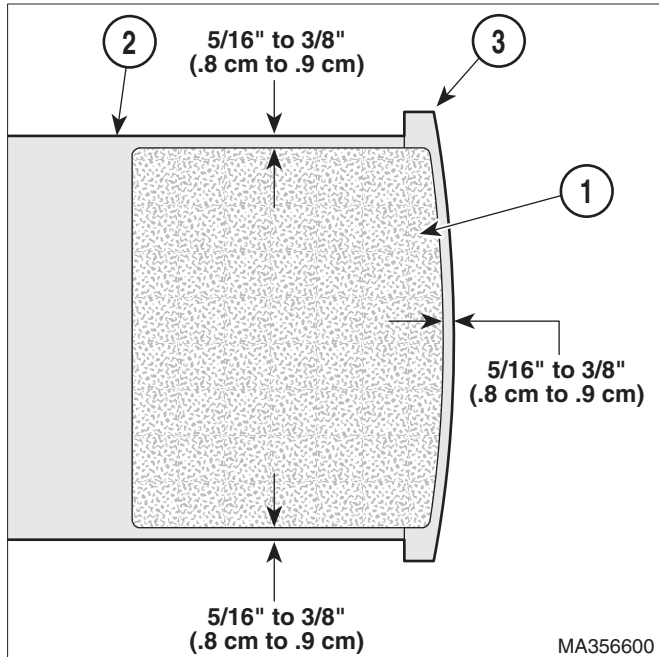

Figure 4-4. Drawer Front Replacement
- (6) Before installing the step cover (1, Figure 4-4) lay it on the step weldment (2) and make location marks. The step cover (1) should be located so that it is positioned 5/16 inch (0.794 cm) to 3/8 inch (0.953 cm) from the outer edges of the drawer front (3) and step weldment (2).